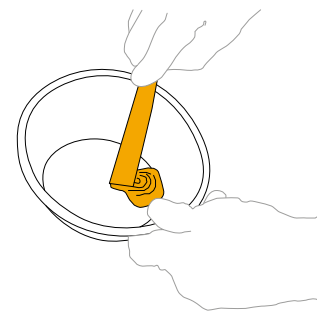

fig. 5
- mix the compound and the colourant prepared earlier (fig. 5);